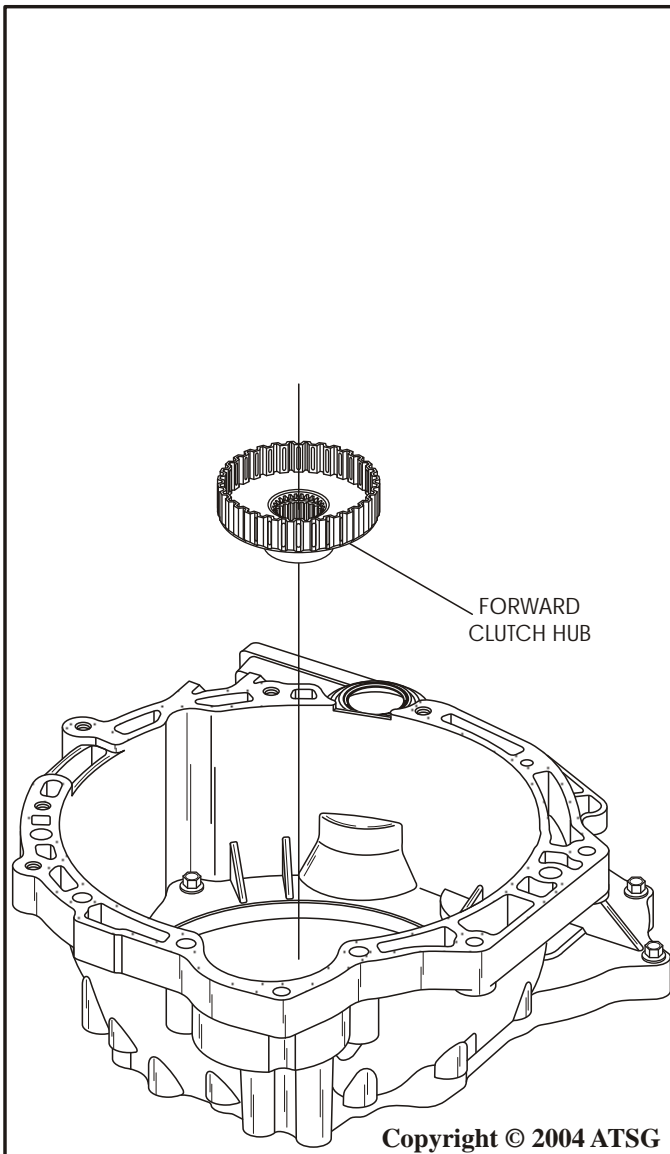

Figure 184
64. Rotate the transaxle 180 degrees so that bell housing is facing up, as shown in Figure 184.
65. Install the forward clutch hub, as shown in Figure 184, by starting onto the splines and then tapping it down and over the cir-clip.